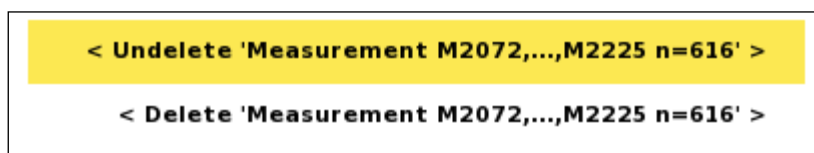

Figure 62 Undelete/Delete data points Option menu
- Highlight “<Undelete ‘Measurements Mxxx,...,Mxxx n=xxx’>” (Mxxxx represents a measurement id) (Figure 62)